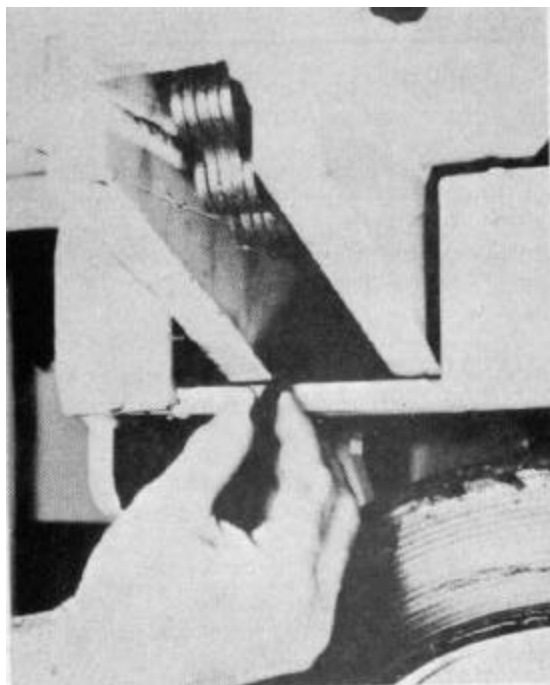

Figure 5-108
2. Shift the front end assembly fully to the left. The access hole for the adjusting screw on the left front roller of the telescoping assembly is now visible. It is inside the front roller support plate, beneath the leaf chain. Fig. 5-108 shows a set screw wrench inserted.